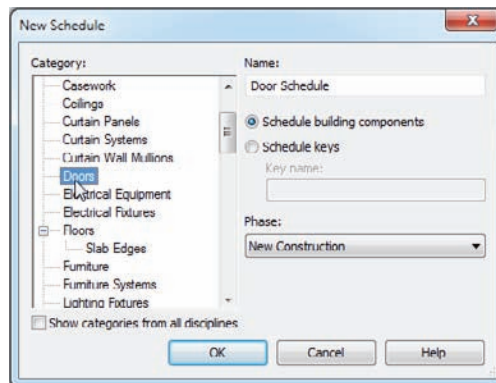

FIGURE 11.2 Select Doors, and click OK.
3. The next dialog box, as shown in Figure 11.2, allows you to choose which item you would like to schedule. Select Doors, and click OK.